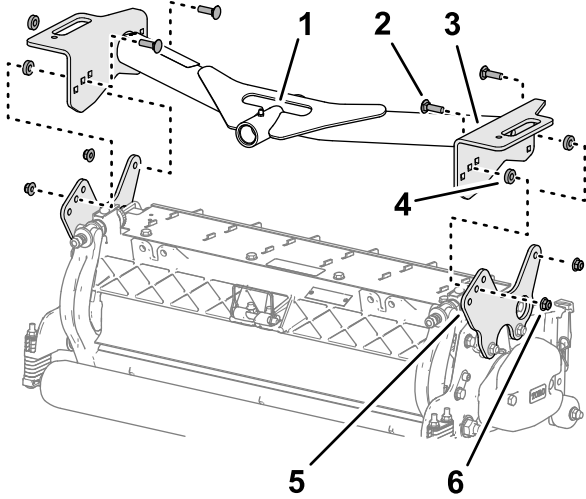

Figure 19
- Align the holes in the plates of the front-carrier frame with the holes in the cutting unit mounting plates (Figure 19).
- Align a spacer between the carrier plate and mounting plate (Figure 19), and loosely assemble the plates and spacer with a carriage bolt (3/8 x 1-1/4 inches) and flange locknut (3/8 inch).